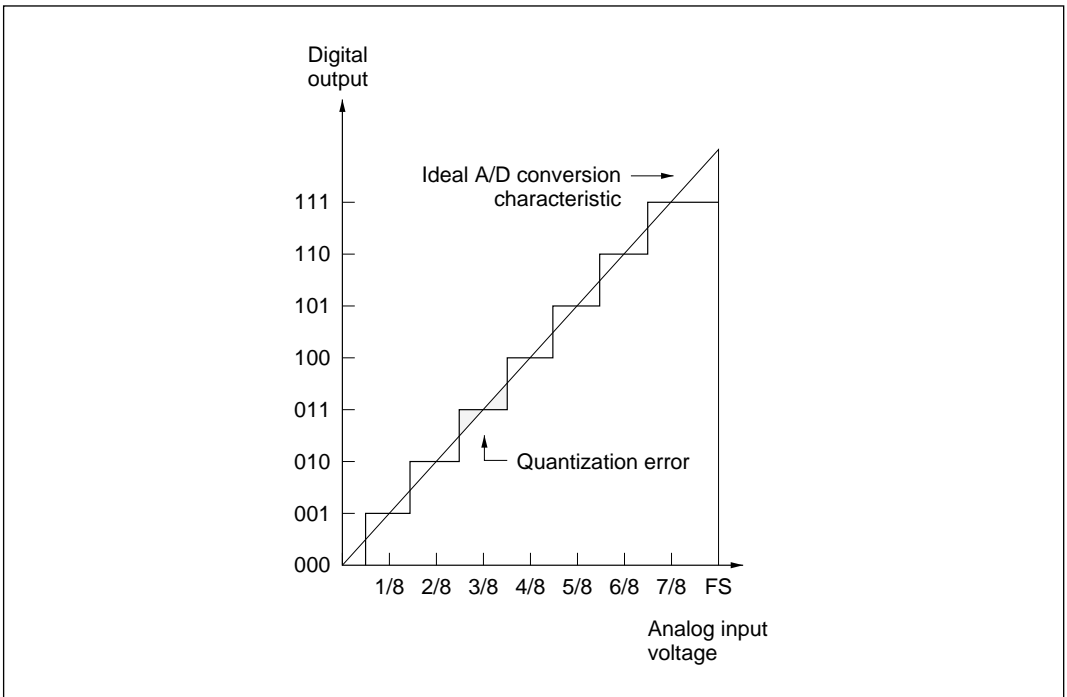

Figure 14-9 A/D Converter Accuracy Definitions (1)
- Quantization error:Intrinsic error of the A/D converter; 1/2 LSB (figure 14-9)